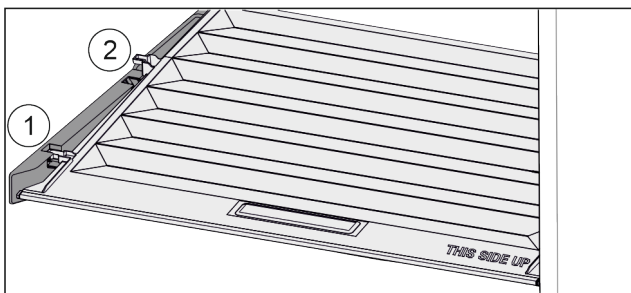

Fig. 51
- ▶ Pull the lid up at the front to the opening in the retaining parts Fig. 51 (1).
- ▶ Lift from the back and pull it up and out Fig. 51 (2).